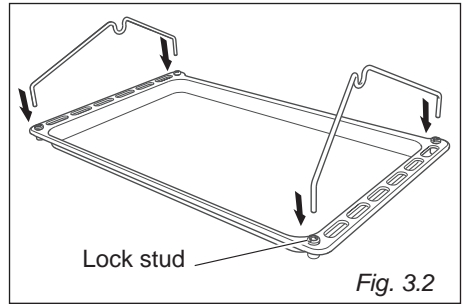

Fig. 3.2
1. Prepare the rotisserie support (fig. 3.2).